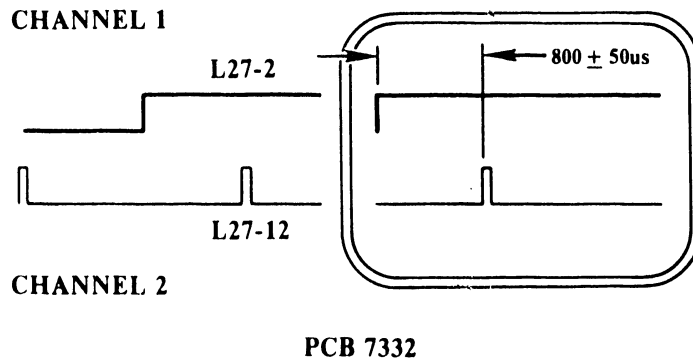

FIGURE 6-6 SCOPE PRESENTATION
- 4) Loosen mounting plate containing index hole (See Figure 6-1) and adjust for a  $800 \pm 50$  usec between leading edges of pulses. (See Figure 6-6.)